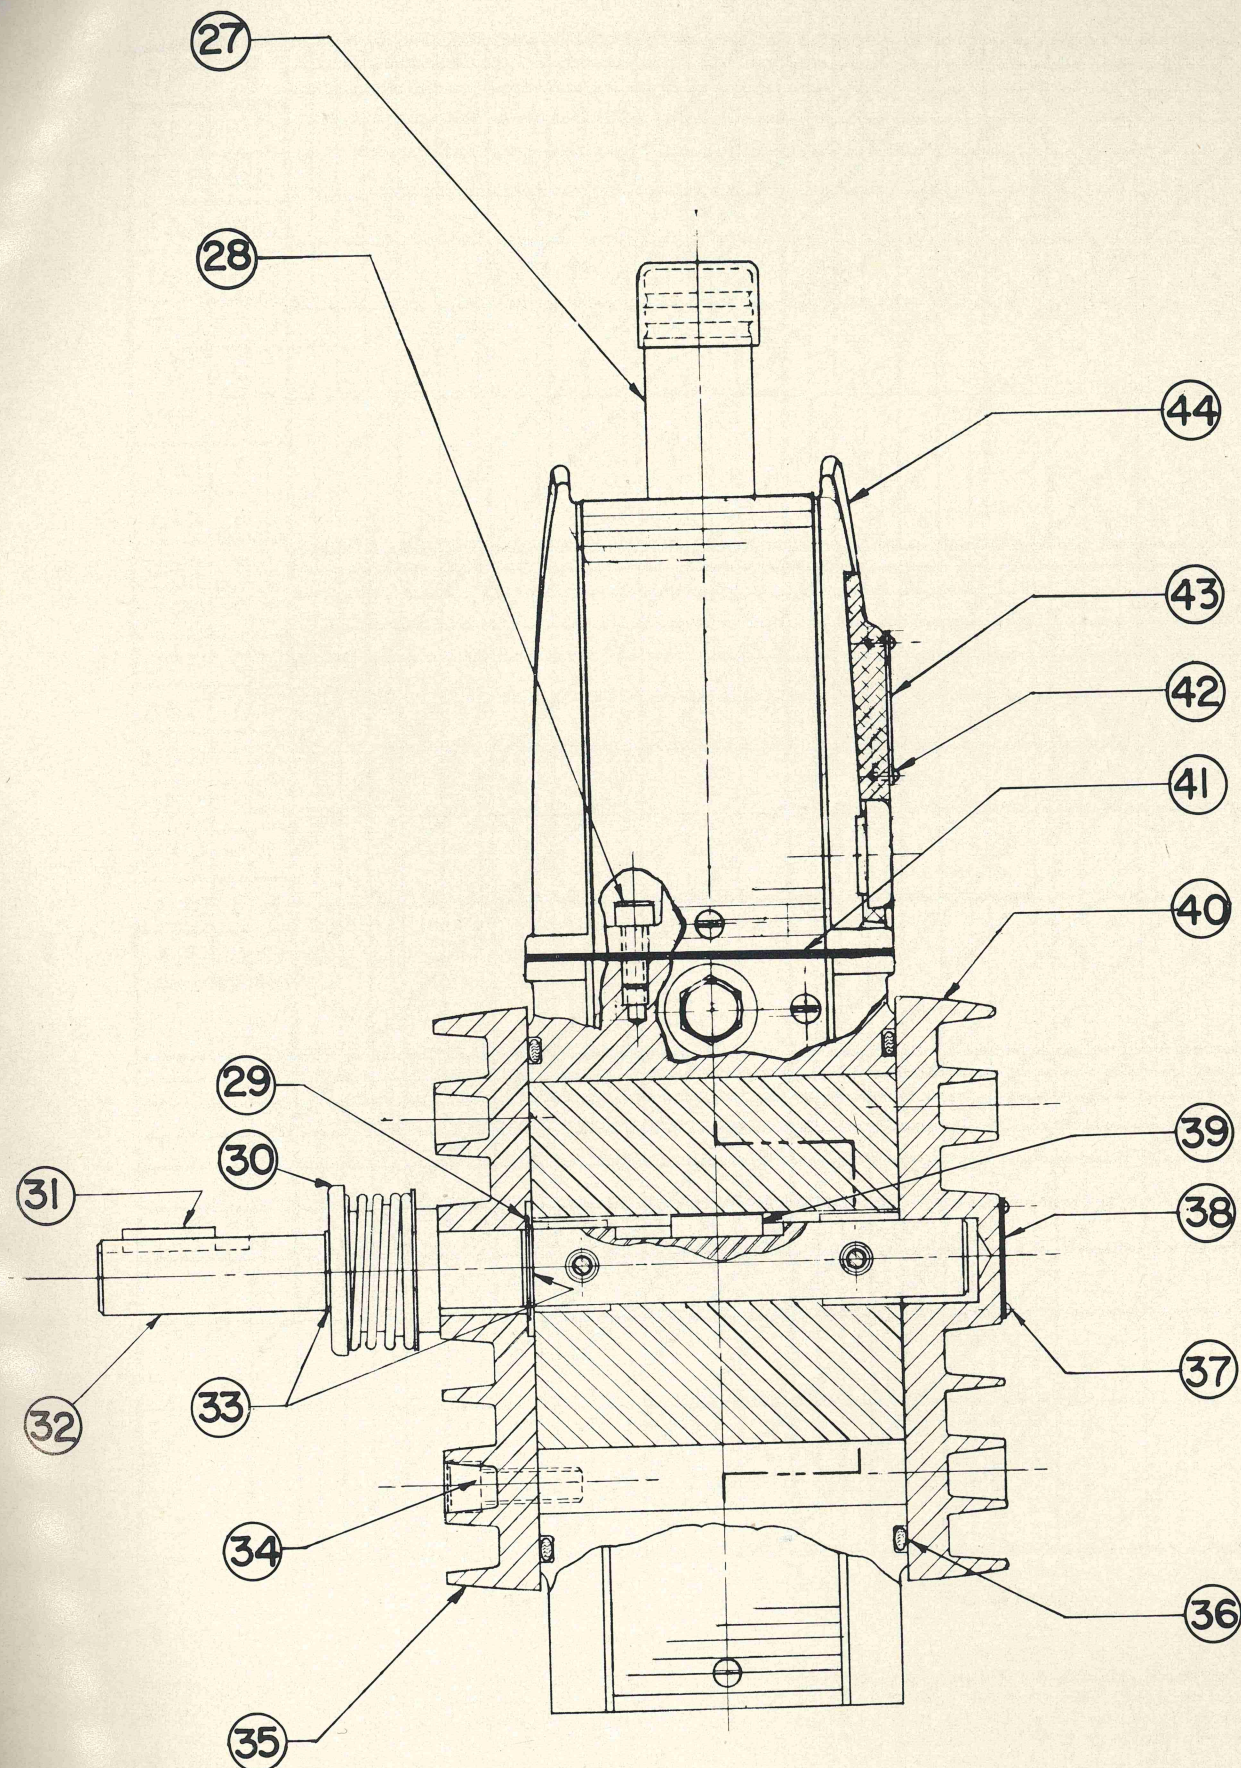

Fig. 4, Sectional View of S14 Pump
The Hyvac S14 is shipped with the oil drained from the reservoir. One quart of oil is supplied with each pump for the first filling and for periodic oil changes. To fill the pump with oil, first remove the exhaust dome (1) Fig. 4 and fill through the opening otherwise taken by the exhaust dome up to the oil level sight gage (22). After the pump has been operating several minutes, observe the oil level. If oil is visible at the oil sight gage, allow the pump to reach its operating temperature (about 1 hour) the intake being closed to atmosphere using plastic cap No. 24 (Fig. 4) supplied with pump. Observe the oil level again. If necessary, add oil to bring oil level slightly above the center of the gage.
When oil has become contaminated it should be changed. The oil may be removed by opening the drain No. 19 (Fig. 4) located at the front of the housing. Turn the shaft several revolutions to force out any remaining oil. Flush with cleaning flushing oil No. 93060 at least once and then refill with new Hyvac Oil No. 93050. The frequency of oil change is dependent upon the service of the pump. An oil change may be needed only once in six months or longer if the pump is operating against a vaporless and dustless system. Daily changes might be required if corrosion and easily condensable vapors enter the pump.
The seal on the pump shaft, No. 32 (Fig. 4) consists of a "Truarc" ring, No. 33, and a shaft seal No. 30. Remove the "Truarc" ring, and the shaft seal.
Fig 4 shows cross sectional view of the Hyvac S14 pump. Paragraph 5.1 lists all the parts for the pump. When ordering replacement parts, please state the exact part number. For repairs to the pump other than the replacement of the shaft seal and where adequate shop facilities are not available, it is strongly recommended that the pump be returned to the factory.
The numbers in the left hand column are identical with the numbers in Fig. 4.